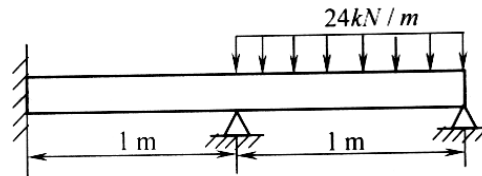

Fig. Q 7(b)
- b. For the beam shown in Fig. Q 7(b), determine the nodal deflections, slopes and the vertical deflection in the mid-point of distributed load. Use two element approximation and take $E = 70 \text{ GPa}$, $I = 3 \times 10^{-4} \text{ m}^4$.